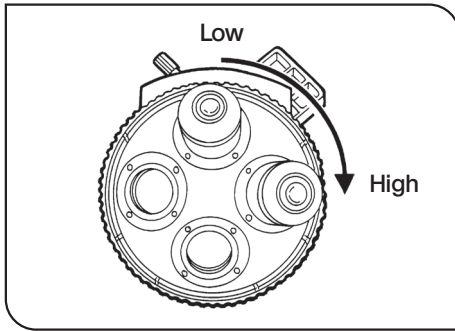

Fig. 4
**3 Mounting the Objectives (Fig. 4)**